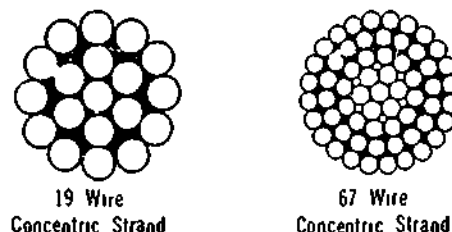

Figure 7-42. Concentric Strand Rope
**Concentric Strand rope** as its name implies consists of round wires laid layer upon layer around a centre wire. This simple strand construction is used exclusively for static purposes such as bridge suspension ropes, standing rigging and similar purposes. (See Figure 7-42).